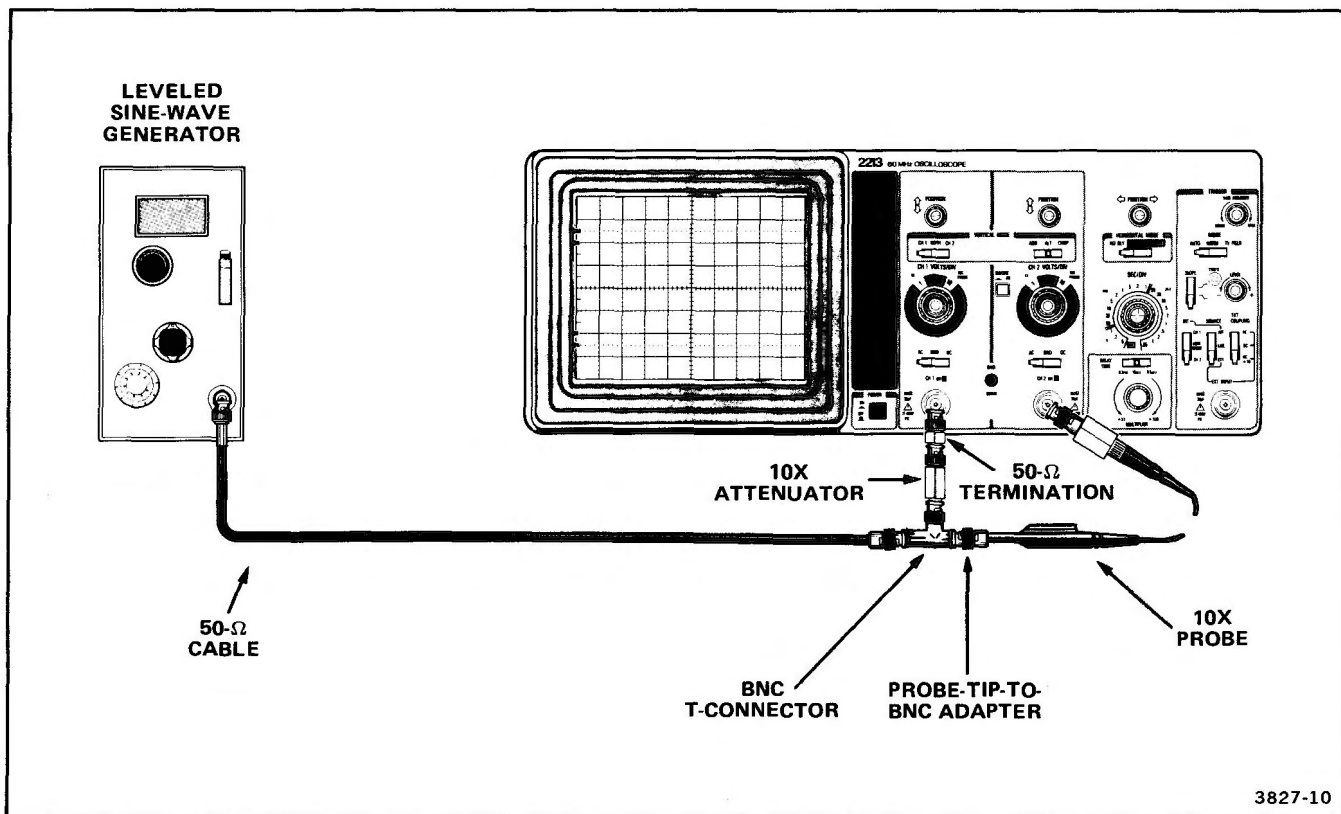

Figure 4-1. Test setup for external trigger and jitter checks.
b. Connect the test setup as shown in Figure 4-1.
k. Reconnect the test setup as shown in Figure 4-1.